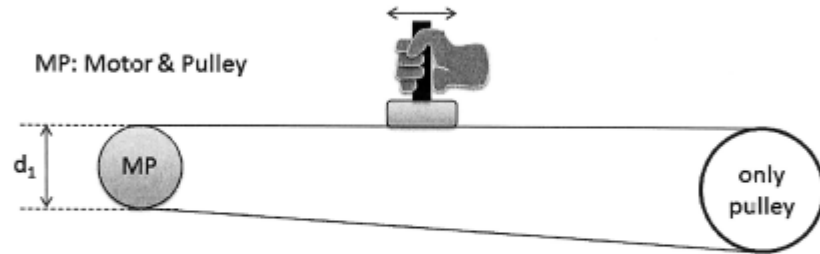

Figure 4
4. A simple robot delivers rehabilitation therapy to a patient's arm via a 1 degree of freedom (dof) mechanism consisting of a handle (grasped by the patient's hand, as in Figure 4) sliding along a rail. To assist the patient, the handle is pushed/pulled by cables wrapped around pulleys and driven by motors (MP configurations in Figure 4). The motor can deliver a maximum torque  $T_{\max}=0.5 \text{ Nm}$  and has rotor inertia of  $120 \text{ g.cm}^2$ . The maximum force to be exerted at the handle is  $F_{\max}=30\text{N}$ .